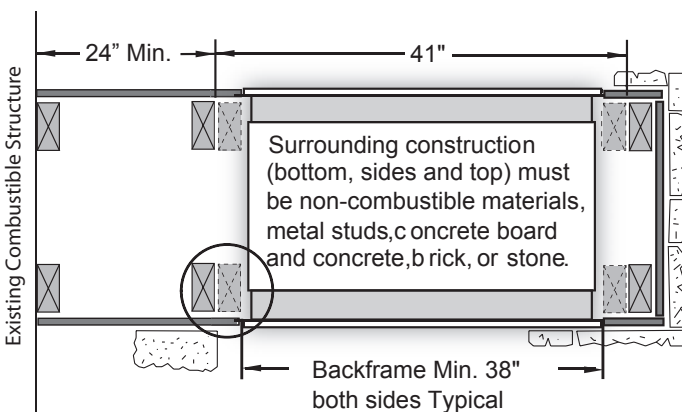

Figure 5. Framing dimensions (without Optional surround). Distance from Existing Structures.
- See **Figure 5** below for location of gas line access.